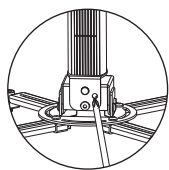

figure 11
2.Looseen the positioning screws (left and right) for adjusting the angle, and then rotate the screwdriver for fine turning to the required angle as figure 11.